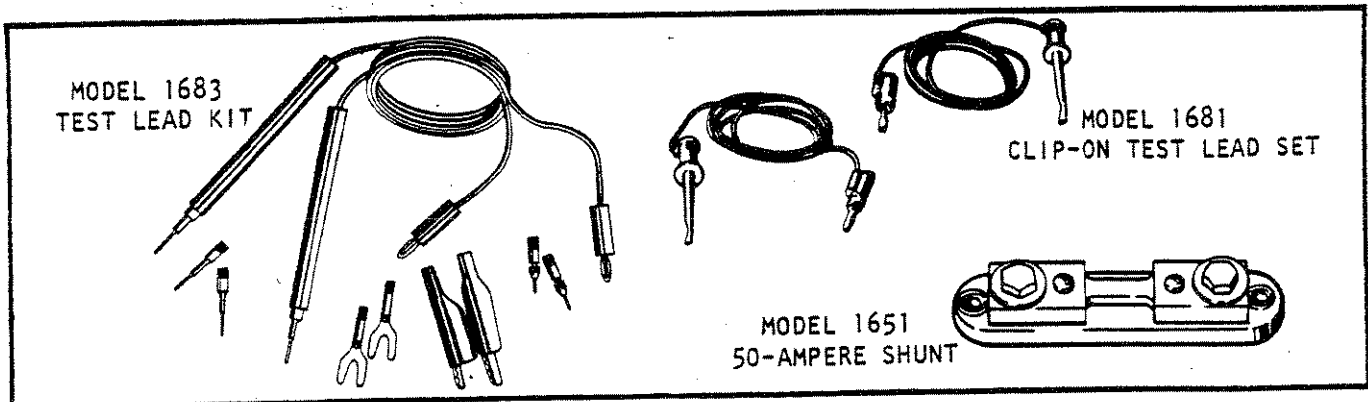

FIGURE 2-5. Accessories.
b. Model 1651 50-Ampere Shunt. The Model 1651 50-Ampere Shunt (shown in Figure 2-5) permits current measurements from 0-50A dc and from 20-50A ac. The shunt has a resistance of 0.001 ohm ±1%, so that a 50-ampere current will correspond to a reading of 50 millivolt (0.0500 volt). Set the DMM to ACV or DCV and select the required range. To use the shunt connect the leads furnished with the shunt from the shunt screw terminals to the DMM input terminals. Use separate leads (not furnished) to connect the source to the hex head bolts. Be sure to use leads with a capacity of 30 amperes, or as needed.
c. Model 1681 Clip-On Test Lead Set. This set (shown in Figure 2-5) contains two leads with banana plugs at one end and spring-action clip-on probes at the other end. Plug the leads into the DMM and attach the probes to the source.
d. Model 1683 Universal Test Lead Kit. This kit (shown in Figure 2-5) contains two test leads, 14 tips, two probes, four banana plugs, two spade lugs, and two phone tips to permit connection of the DMM to virtually any source within its range.